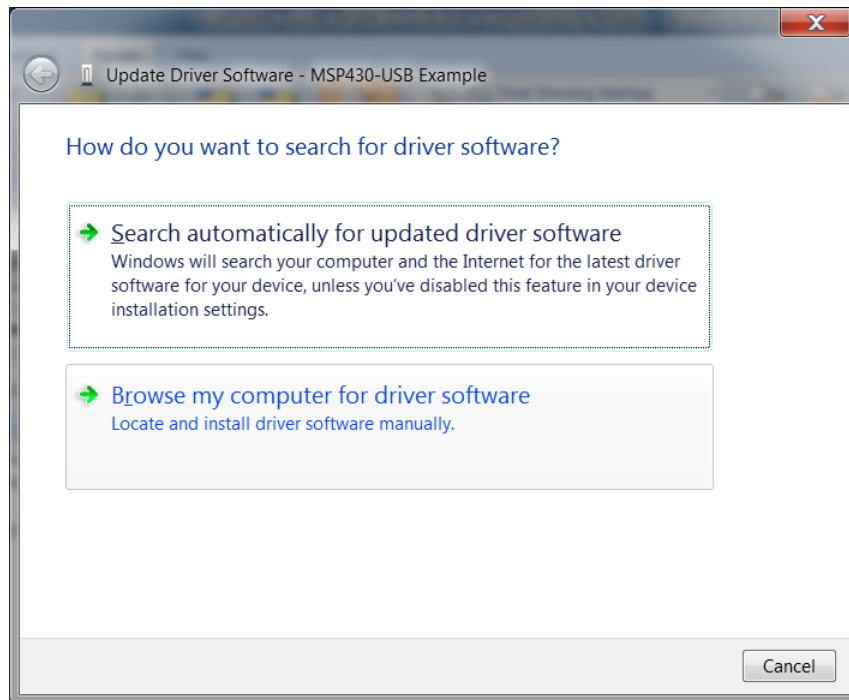

图 26. Update Driver Software Window
3. Choose the *Browse My Computer for Driver Software* option (see 图 26).